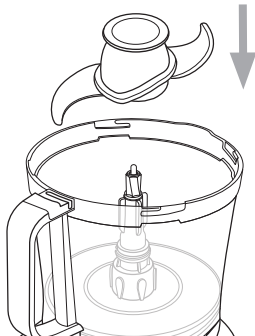

Fig 5
2. Fit the universal 's' blade over the spindle and press firmly into place, see figure 5.